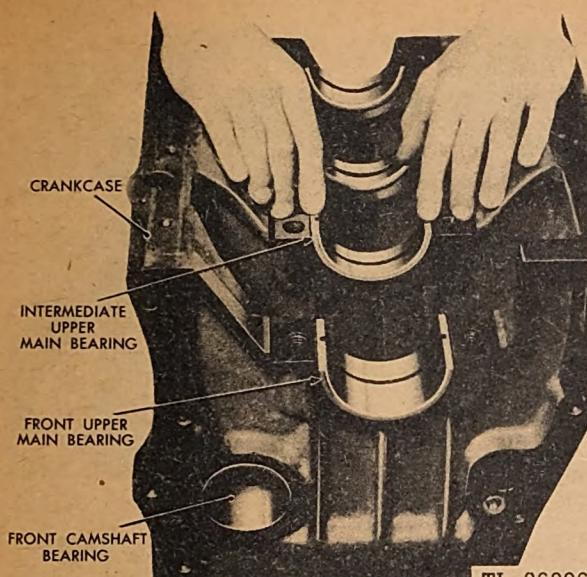

Fig. 154. Installing Main Bearings
*b. Replacement.* Install upper halves of shells. (See Figure 154.) Make sure that the supports in the case are not marred and that there is no dirt or foreign matter between the shell and the case. Install the lower half in the cap so that the bearing fits over the dowel in the center of the cap. Do not file the
b. *Crankshaft Main Bearings, Caps and Oil Seal Assembly.* (1) Install the upper main bearings in the crankcase support. (See Figure 154.) The rear main bearing may be lightly tapped into place with a wood block and hammer.